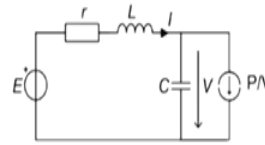

Fig.4 Electrical system containing nonlinear load
- It is seen by the dc bus as a constant power consuming element as shown in Fig.4.